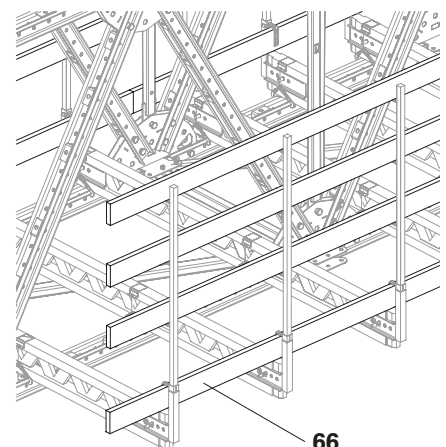

Fig. A6.05
4. Attach guardrail boards\* (**66**) to the guardrail posts (**65**). (Fig. A6.05)